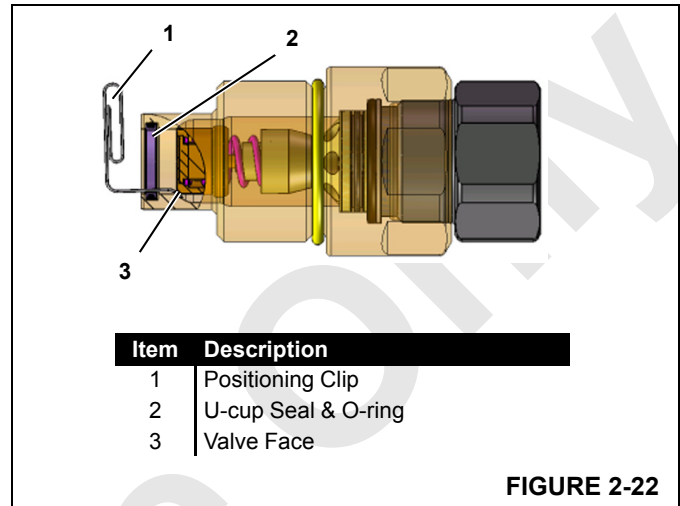

FIGURE 2-22
2. Bend a positioning clip as shown in Figure 2-22 and inset between valve face and body, captivating the valve face.